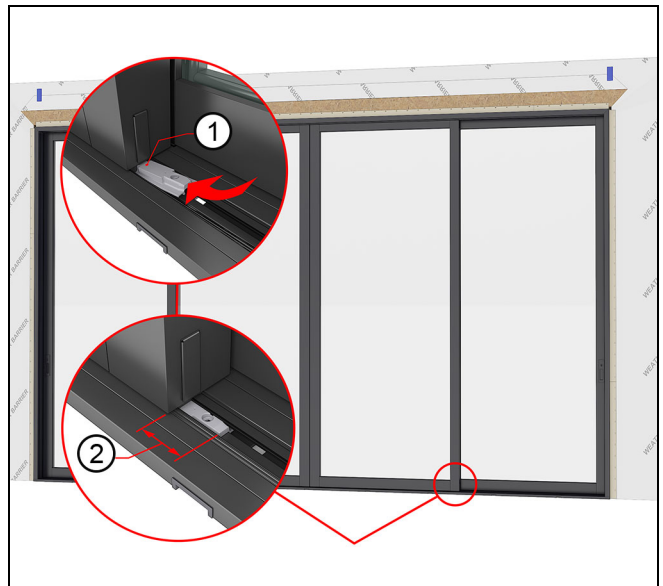

Figure 172
13. Snap the third and final lower stationary bracket onto sill, then slide underneath the (C) stationary panel until fully seated. The bracket should stick out approximately 2 1/4" (57) from panel when fully seated. Fasten the lower stationary bracket with a #8 x 1/2" self drilling screw. See Figure 172.